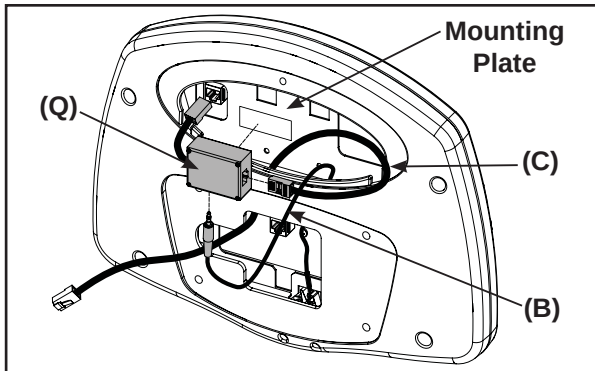

Figure 17
- A. Attach the RJ-45 (C) and audio cables (B) to the signal isolator (Q). See Figure 17.
- B. Insert the RJ-45 (C) cable down through the lower rear console cover opening. See Figure 17.
- A. Attach signal isolator (Q) cable to the PC board. See Figure 17.
- B. Peel off backing from tape and attach the signal isolator (Q) to the mounting plate. See Figure 17.